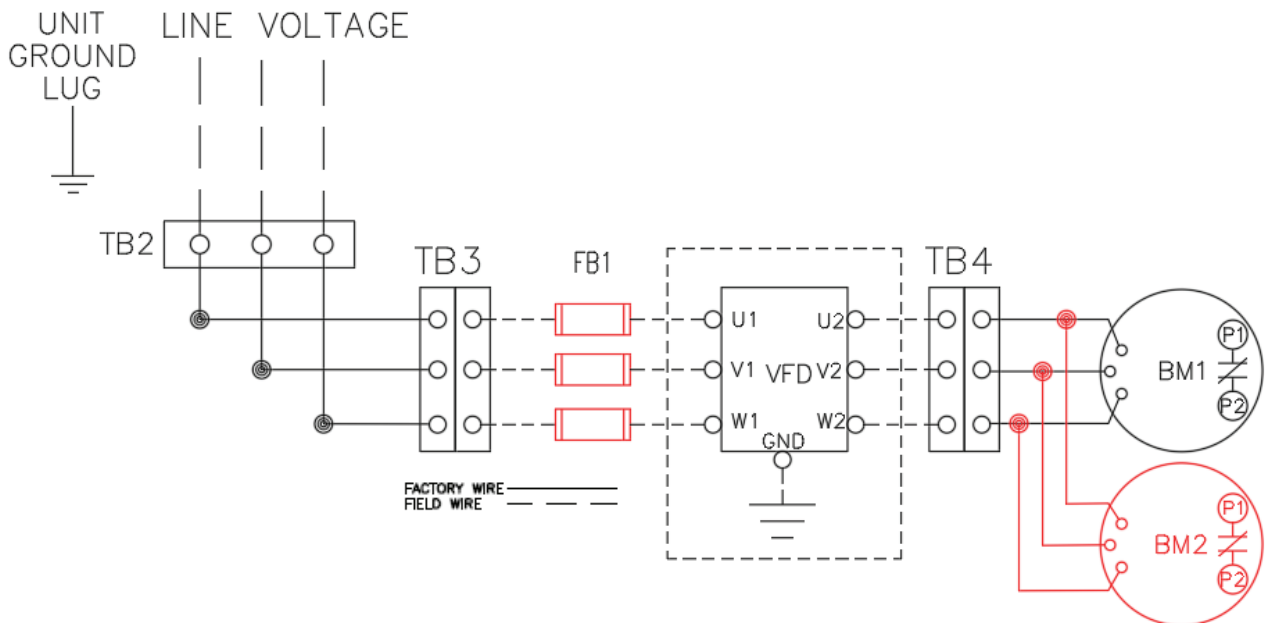

Fig. 50 — VFD Input and Output Power Connections, 50HQP Units
Units with the VFD option include a VFD that ships loose for field installation. See Fig. 50 for field power wiring for VFD. Use the following guidance for VFD installation:
5. Disconnect unit power and remove the compressor and electrical control box accesses panel on the unit. See Fig. 50.